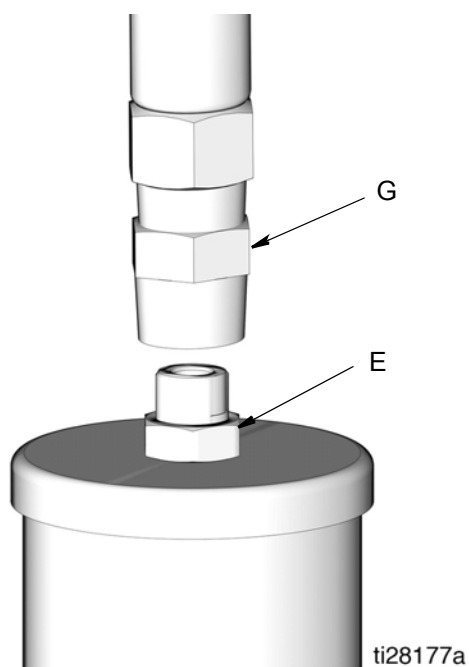

FIG. 8
6. Connect the pump outlet (E) to the lubrication line (G) (FIG. 8).